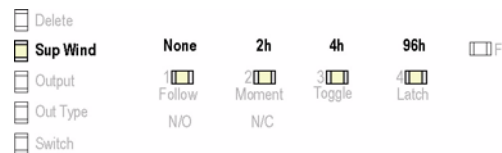

Figure 5 Select the Supervision Window
- Use the **Advance** button to choose a supervision window of None, 2h, 4h or 96h. Press **Program** to complete and advance to the output option (Fig. 5).